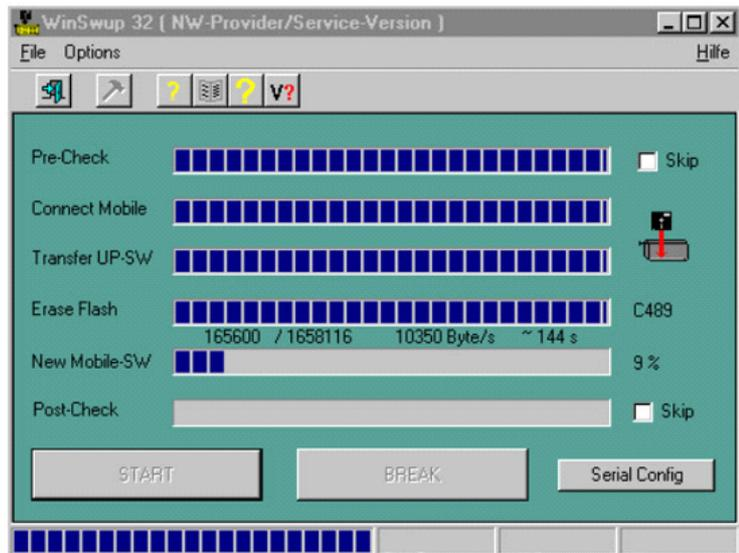

Figure 3: WinSwup dialog box during download
6. The *Pre-check* function of WinSwup (see Figure 3) is capable of checking whether your current firmware is serviceable. Use the *Skip* check box to select whether to